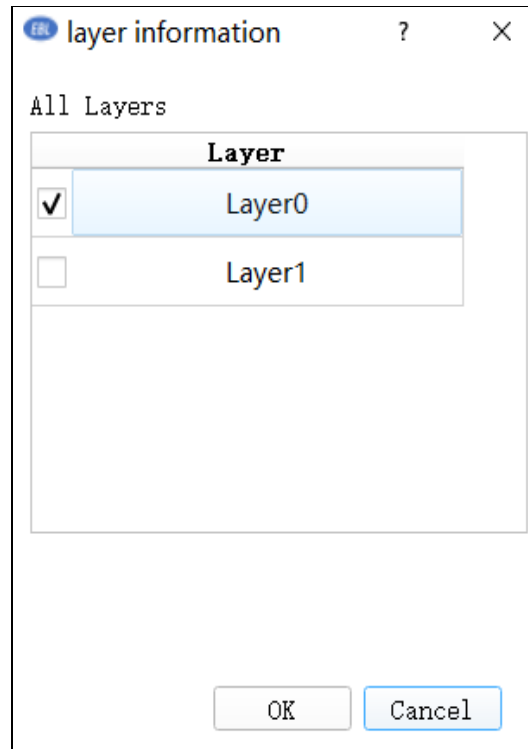

Figure 2.8.6 Select layer
- 10) You can click “Layer” on the upper right to select the energy deposition of any layer (Figure 2.8.6). The first layer is displayed by default. Only a single layer can be displayed.